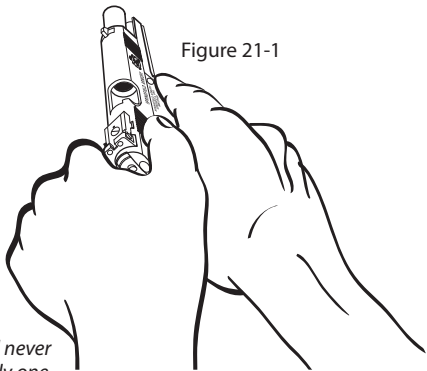

Figure 21-1
3. From top and rear, carefully inspect chamber to make sure it is empty (Figure 21-1).